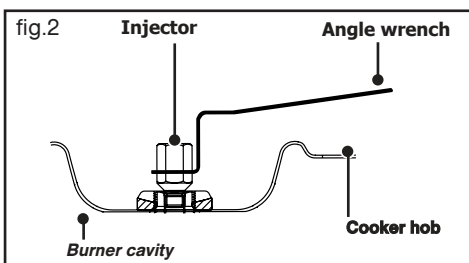

fig.2
- Unclip the metal clip located at the base of each burner (hotplate and grill) (**fig.2**) using a small screwdriver.